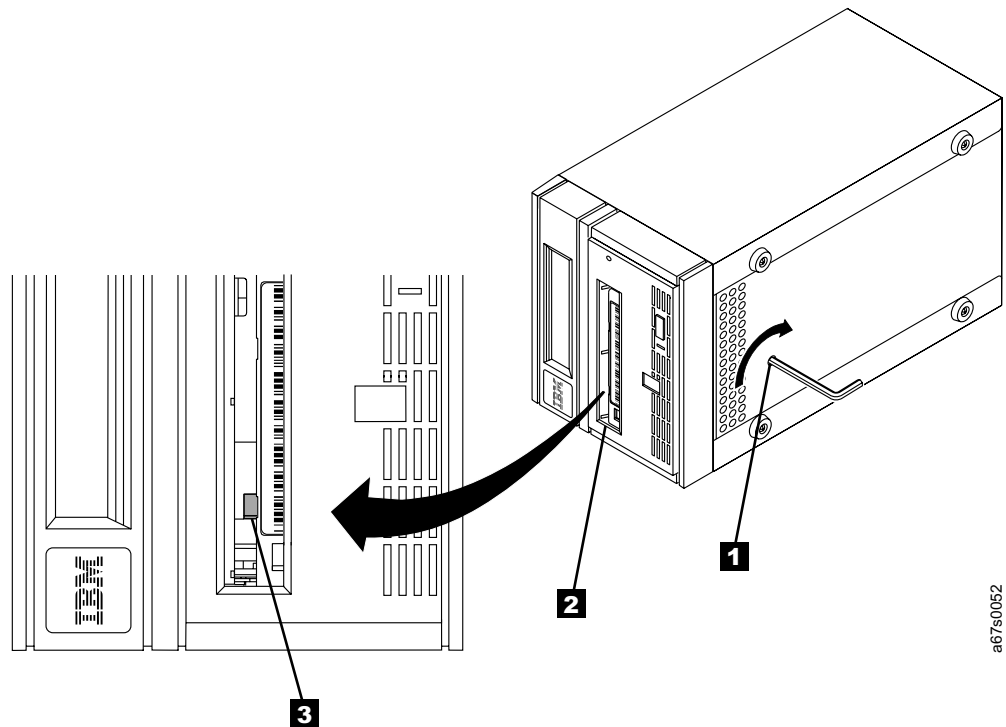

Figure 20. Determining whether the tape is broken
5. Insert a 2.5-mm allen wrench (see **1** in Figure 20) into the access hole and position the wrench so that it is seated in the access screw (not visible).